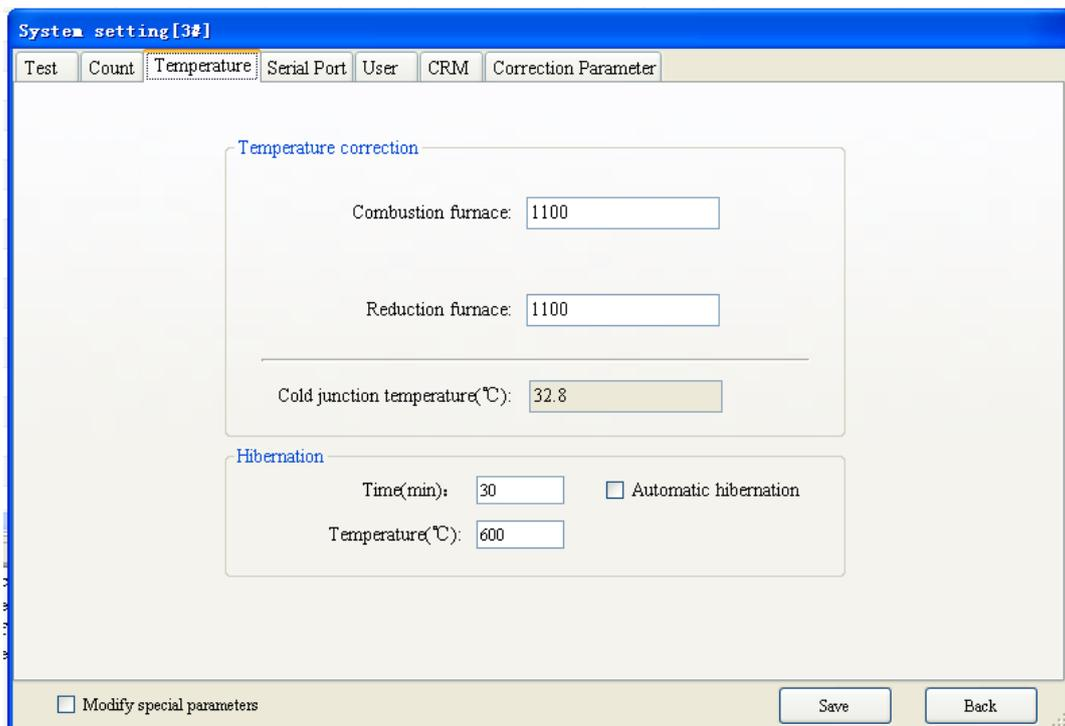

Fig. 4-3-4
2. Temperature: Click on “Temperature” tab in “system setting” window, window as Fig 4-3-4 will popup.